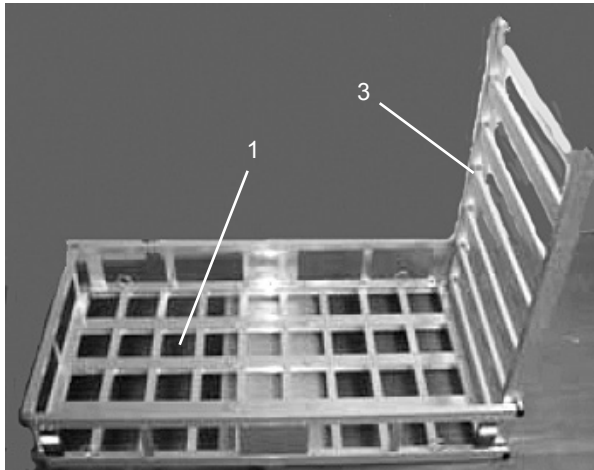

Figure 7
2. With assistance, carefully unload Wheelchair/Scooter from Carrier. Once Carrier has been unloaded, raise Ramp and lock back into place. See Figure 7.